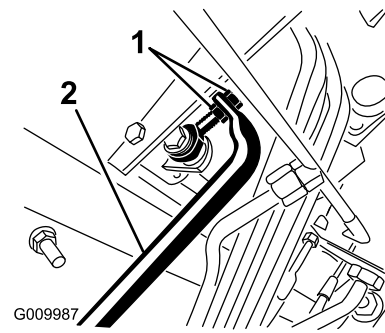

Figure 67
4. Adjust jam nuts on pump rod end to move pump control tube forward to eliminate forward creep or rearward to eliminate rearward creep (Figure 67).